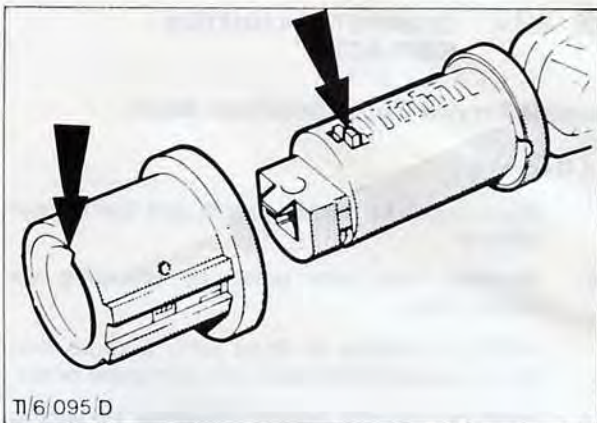

Fig. 78. Assembly of barrel into key cylinder
9. With reference to Fig. 78, insert barrel into cylinder. Barrel can only be fitted in one position, and this allows securing ward to operate on key cylinder chamfer.